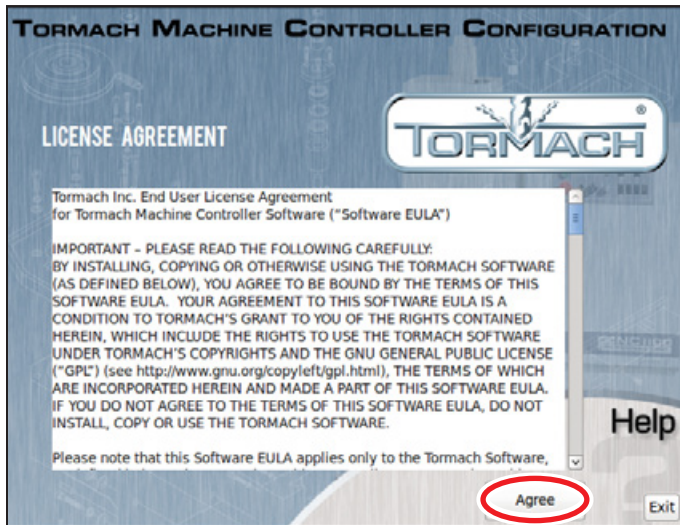

Figure 1
2. When the end-user license agreement appears, review and click **Agree** to continue (see **Figure 1**).